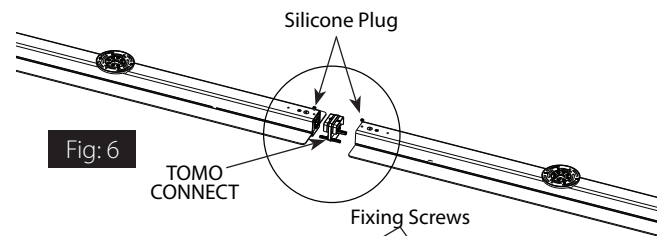
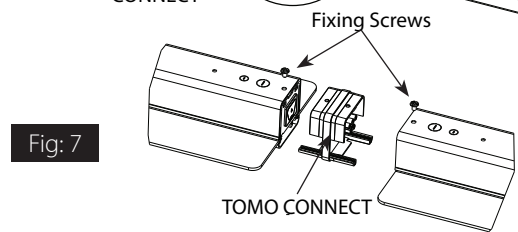

Fig: 6
Fig: 7
1. For continuous run, remove fixture **End Caps** (Fig. 6). Pop out **Silicone Plugs**, push Fixtures together using **TOMO CONNECT** (ordered separately) between fixtures for quick connect installation (Fig. 7). **TOMO CONNECT** is provided with (2) **Fixing Screws**. Install **Fixing Screws** in **Silicone Plug** points. Only (1) one **Fixture** needs to be electrically hard wired from above (Fig. 8).